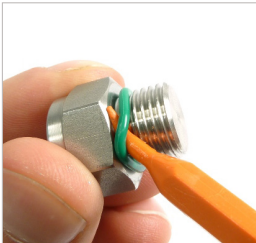

Figure 4
- ▶ Remove the o-ring from the plug using the WEH® O-ring picker (*Figure 4*).